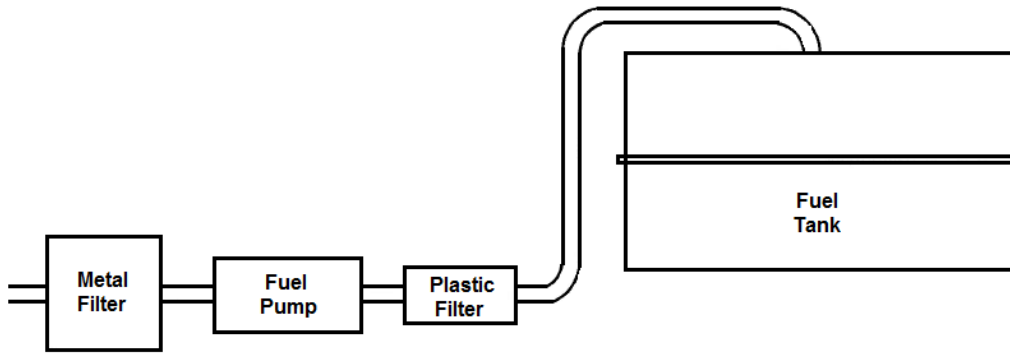

Figure 2: Installation of Fuel Pump and Fuel Filters
7. Connect the outlet side of the large fuel filter to the fuel supply line that runs to the engine compartment (Fig. 2).